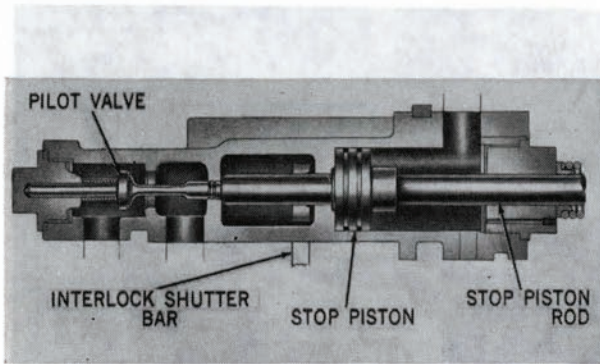

Figure 159—Torpedo Stop Cylinder—Sectional View.
**Torpedo Stop Cylinder.** Primarily a part of the torpedo stop mechanism, the torpedo stop cylinder, figure 159, also forms a part of the firing mechanism. Forced breechward by ship service air from the stop cylinder valve through the anti-refire valve, the stop piston and rod act to lift the torpedo stop bolt; and, for mechanically set torpedoes, they retract the gyro setting spindle. At the same time, the stop piston rod opens a pilot valve in the stop cylinder against spring action. This vents the space above the firing valve lifting cup to cause the firing valve to open.